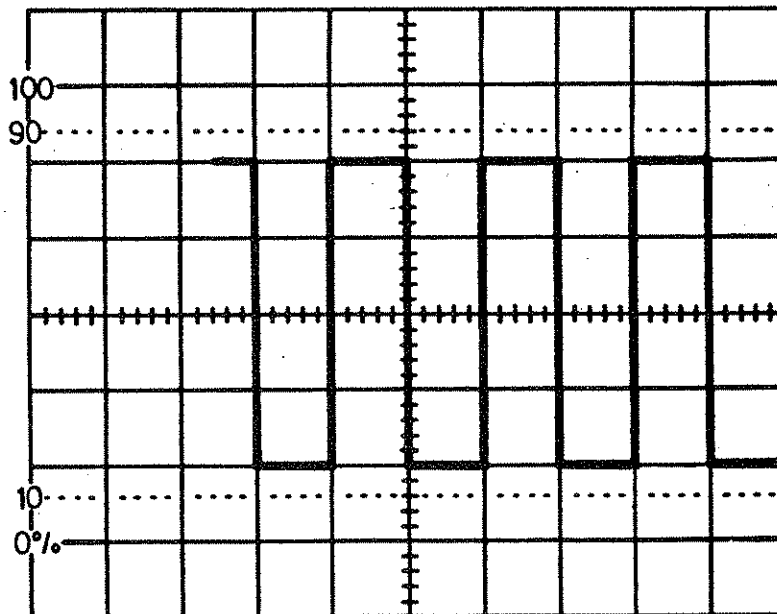

Figure 4-2. Left Portion of Waveform Blanked
22. Verify that portion of displayed trace on left screen is blanked, as shown in Figure 4-2.